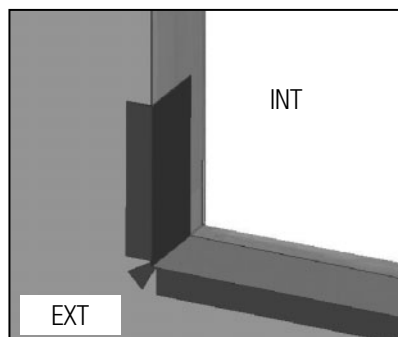

FIG. 6
- D) Apply sill flashing to the rough opening as shown below. (Fig. 6)